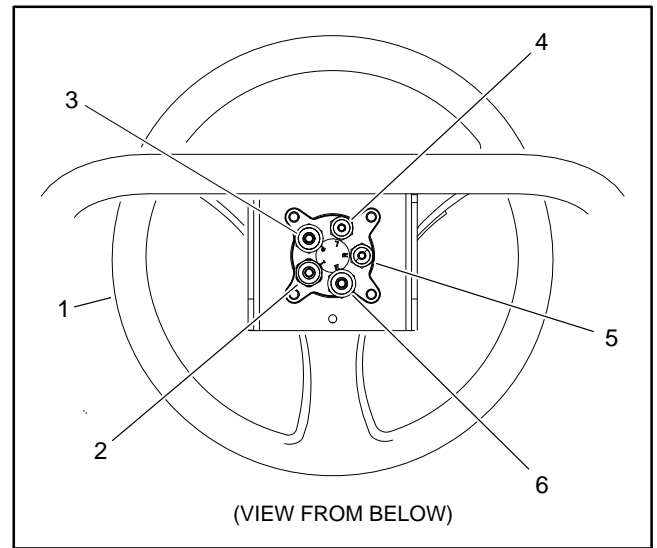

Figure 28
8. Label all hydraulic hoses for assembly purposes (Fig. 28). Clean hydraulic hose ends prior to disconnecting the hoses from the steering control valve.
10. Support steering control valve to prevent it from falling during removal. Loosen and remove four (4) cap screws (item 11) that secure steering column and steering control valve and remove steering control valve from machine.
1. Position steering control valve to frame. Secure steering column and control valve to frame with four (4) cap screws (item 11).
2. Remove caps and plugs from disconnected hoses and fittings. Using labels placed during removal, connect hydraulic hoses to steering control valve (Fig. 28). Tighten hose connections (see Hydraulic Hose and Tube Installation in this chapter).